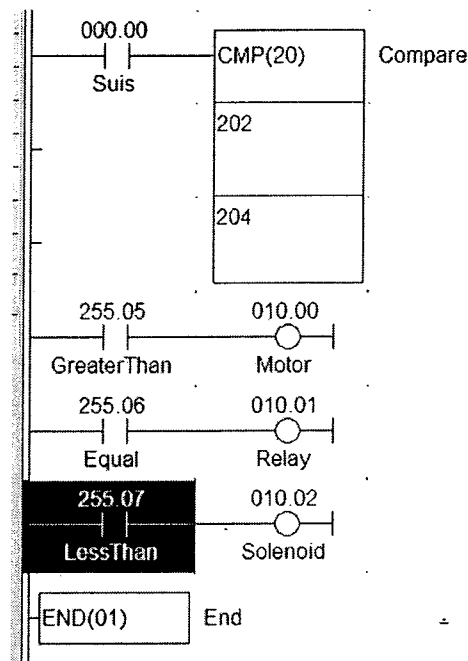

Figure Q6[a]
- Q6. [a] Consider the ladder diagram shown in Figure Q6[a]. Explain what happens if memory 202 contains number 122 while memory 204 contains number 113 and the switch which is connected to input terminal 000.00 is pushed.